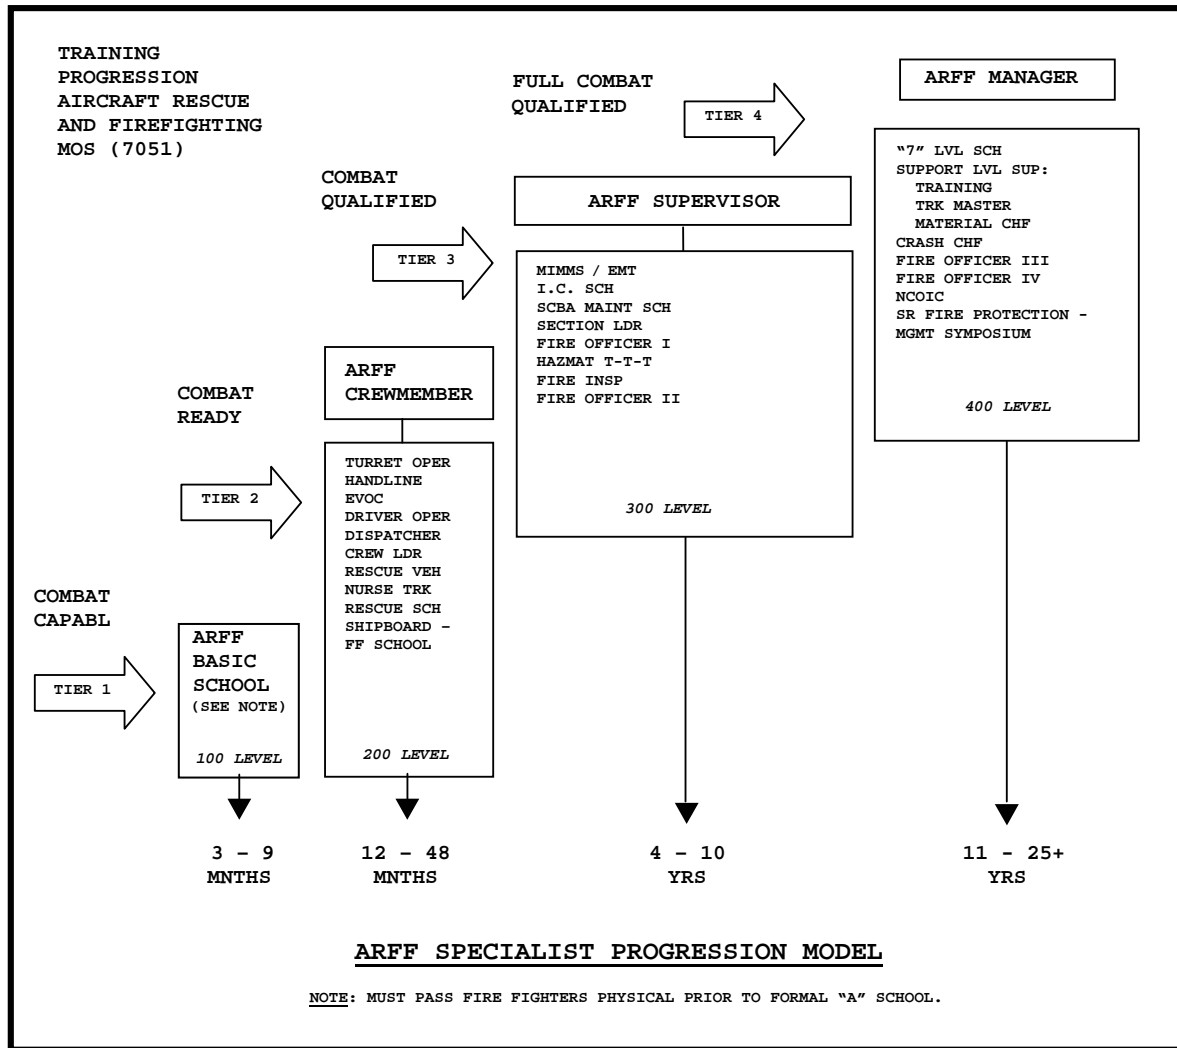

Figure 1-1.--ARFF Specialist Progression Model.
1. The Training Progression Model for the Aircraft Rescue and Firefighting Specialist is depicted in figure 1-1.